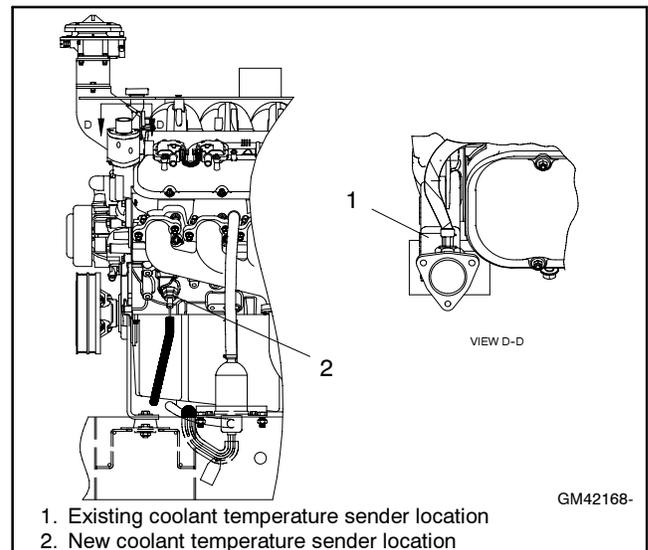

Figure 1 Coolant Temp. Sender Existing Location
- 2.4 Remove the coolant temperature sensor from the aluminum spacer above the engine thermostat. See Figure 1.